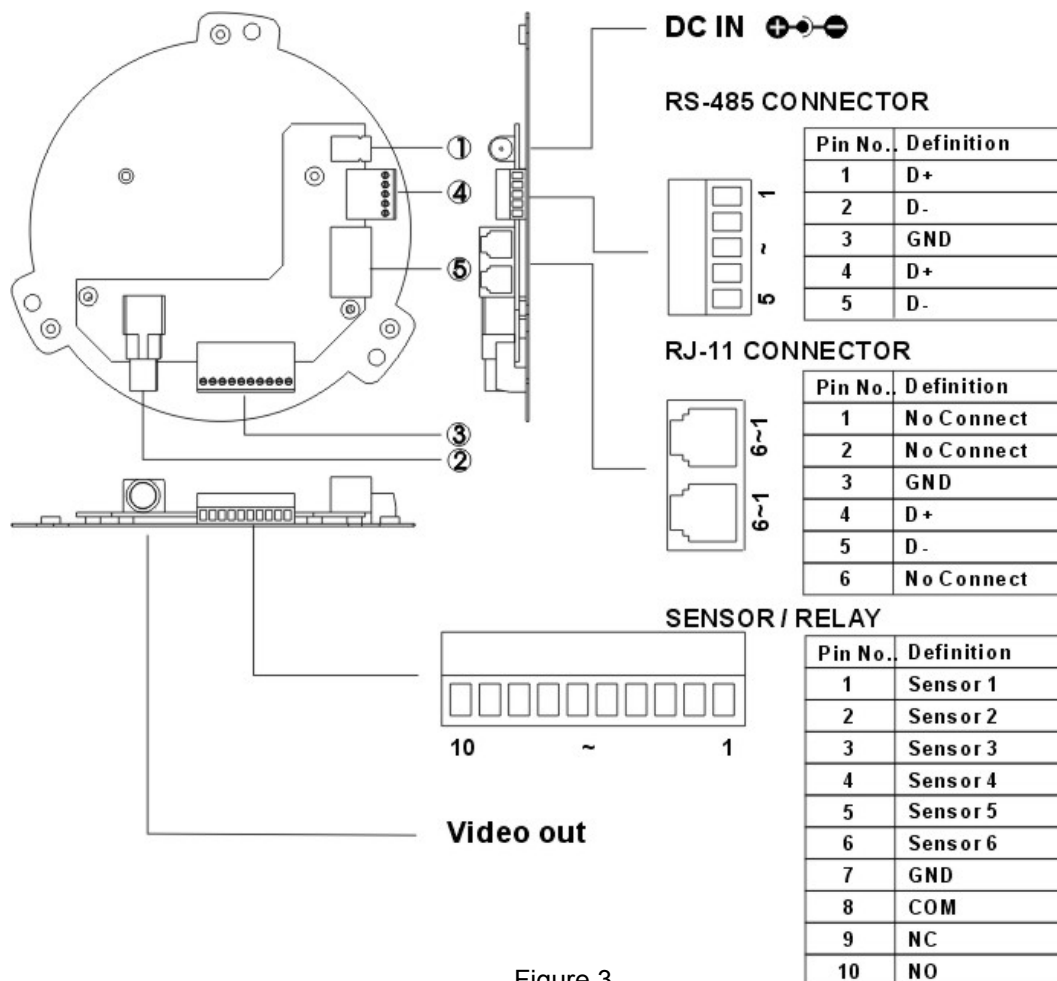

Figure 3
- ⑤ Alarm Input or Output / Video Output / Power Input Terminal (Please Refer to Figure 3)